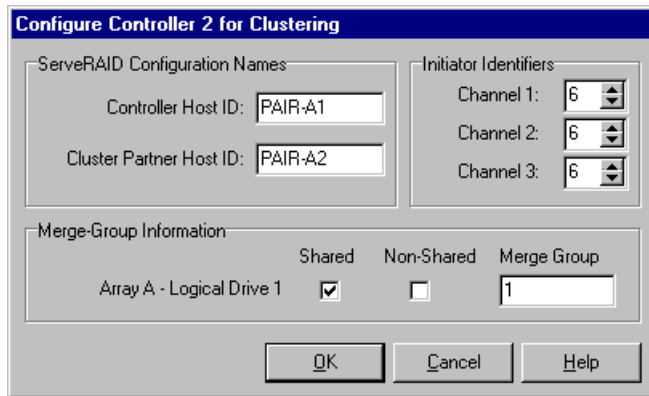

Figure 62. Configure for clustering: entering parameters
For our configuration in Figure 62 on page 120, we typed in PAIR-A1 and PAIR-A2, respectively. Note that these values are case sensitive.
- d. For each logical drive, check **Shared** and specify a unique merge ID for each one in the range 1-8 (you can have up to eight logical drives defined to an adapter). These settings are shown in Figure 62: